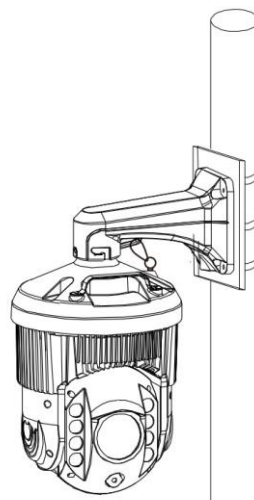

Figure 1-3-12
- d. To install the PTZ camera and bracket, please refer to the wall bracket installation method. The installation effect is shown in Figure 1-3-12.